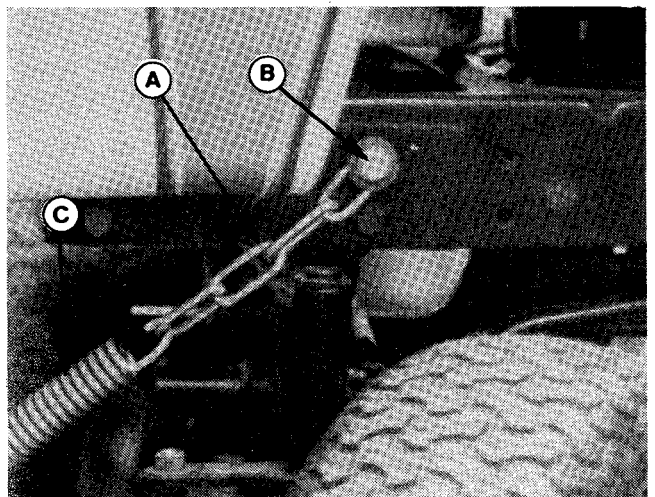

Figure 3. Chain
5. Tighten the nut (B) on both eyebolts down to expose about 3/4 inch (19 mm) of thread. (See page 6 for spring tension adjustment.)
6. Add the other nut (E) to each eyebolt. Hold the first nut (B) secure with a wrench and tighten the second nut (E) securely on each eyebolt.
7. Assemble the chain (A, figure 3) to the tractor as follows.
- a. On left-hand side, remove the upper self-tapping screw that holds bumper to frame. This is the hole used for installing chain in the following steps, using one 5/16-18 x 1-1/4 capscrew (B), two 5/16 washers, and one 5/16 locknut.
- c. Insert the capscrew (B, figure 3) as shown. From inside frame, install 5/16 locknut onto capscrew. Tighten snug only at this time. The spring (C) will be installed in "Installation" section, and hardware will be tightened.